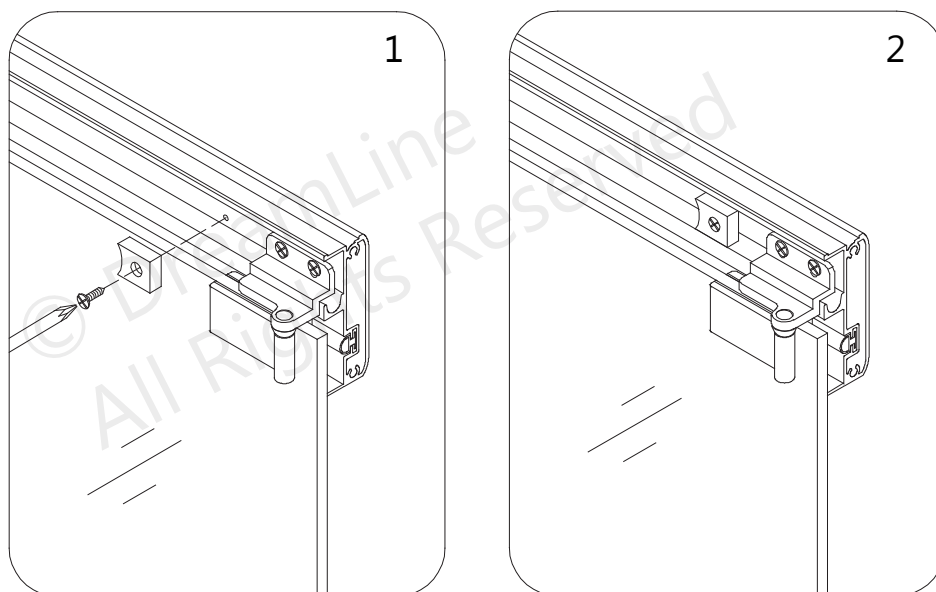

Fig 9
9. Secure the **Roller Stoppers (#16)** to the top and the bottom **Guide Rails (#03)** into the pre-drilled holes using the **ST4.2x10 Pan Head Screws (#07)**. (**Fig 9**)